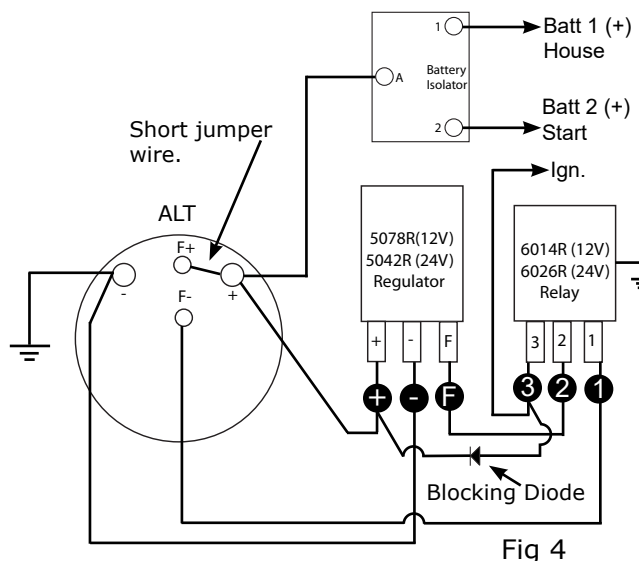

Fig 4
2) Identify and label vehicles wires connecting to voltage regulator and relay as indicated in Fig 4.
3) Remove ①, ②, ③ wires from relay and +, -, F wires from regulator terminals. Remove blocking diode from regulator + terminal and relay ③ terminal. Fig 4